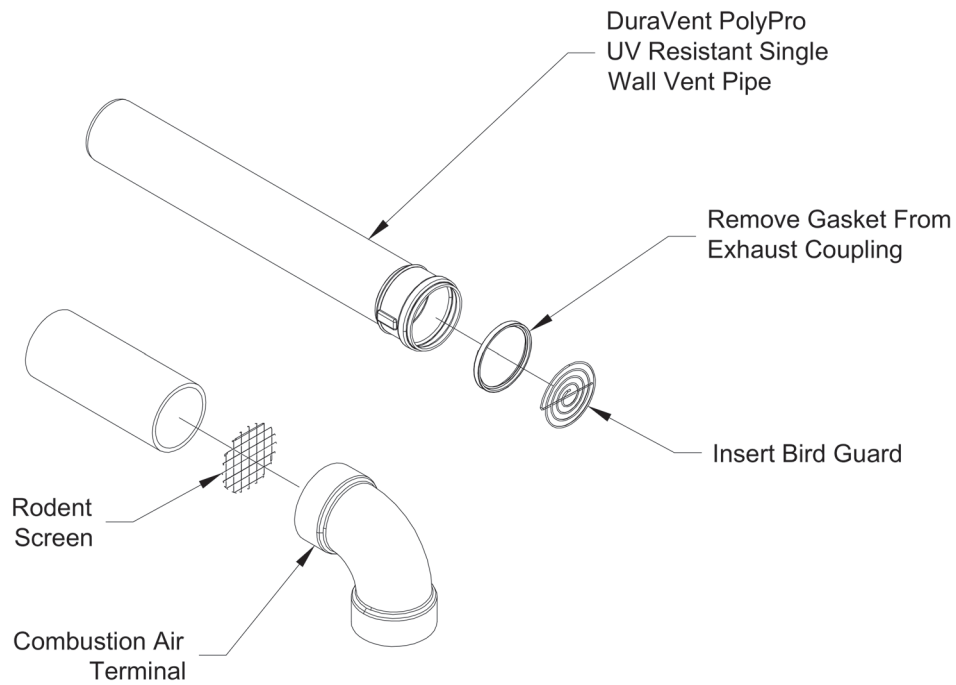

Figure 7.35: Installation of DuraVent PolyPro UV Resistant Single Wall Horizontal Terminal
- a. See Figure 7.35 for proper orientation of twin pipe horizontal terminals. Outer edge of exhaust coupling must be 10" or less from the wall surface. (Figure 7.9)